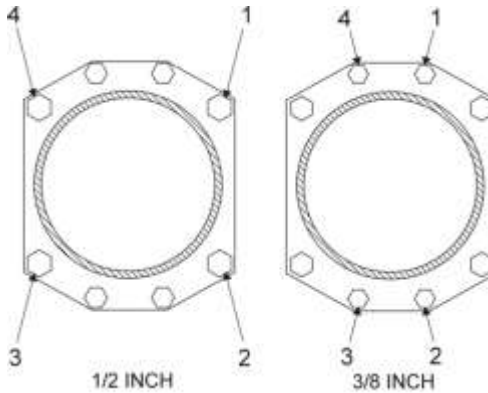

Figure 32
⚠ CAUTION TORQUE THE CYLINDER NUTS IN THE SPECIFIED SEQUENCE IN FIGURE 32.
- (1) Torque the 1/2 in. nuts to 25 ft.-lb. (34 Nm) in the sequence shown in Figure 32.
- (2) Torque the 1/2 in. nuts to 50 ft.-lb. (68 Nm) in the sequence shown in Figure 32.
- (3) Torque all 3/8 in. nuts to 25 ft.-lb. (34 Nm) in the sequence shown in Figure 32. The torque sequence for these nuts is optional.
- (4) Use the same sequence shown in Figure 32, complete a torque check to 50 ft.-lb. (68 Nm) for all 1/2-in. nuts on the cylinder base studs.
- (5) Tighten both ends of the free thru-studs at the same time at the all locations. Make sure all thru-studs have at least 1-1/2 threads above attaching nuts at both ends.
- (6) Make sure all cylinder base hold-down nuts are torqued. Complete a torque check of all nuts on the cylinder base using the torque wrench to apply the appropriate torque on each nut for 5 seconds. If the nut does not turn, it is correctly torqued.
- (7) Apply torque seal to all cylinder hold-down nuts where the nut contacts the barrel.